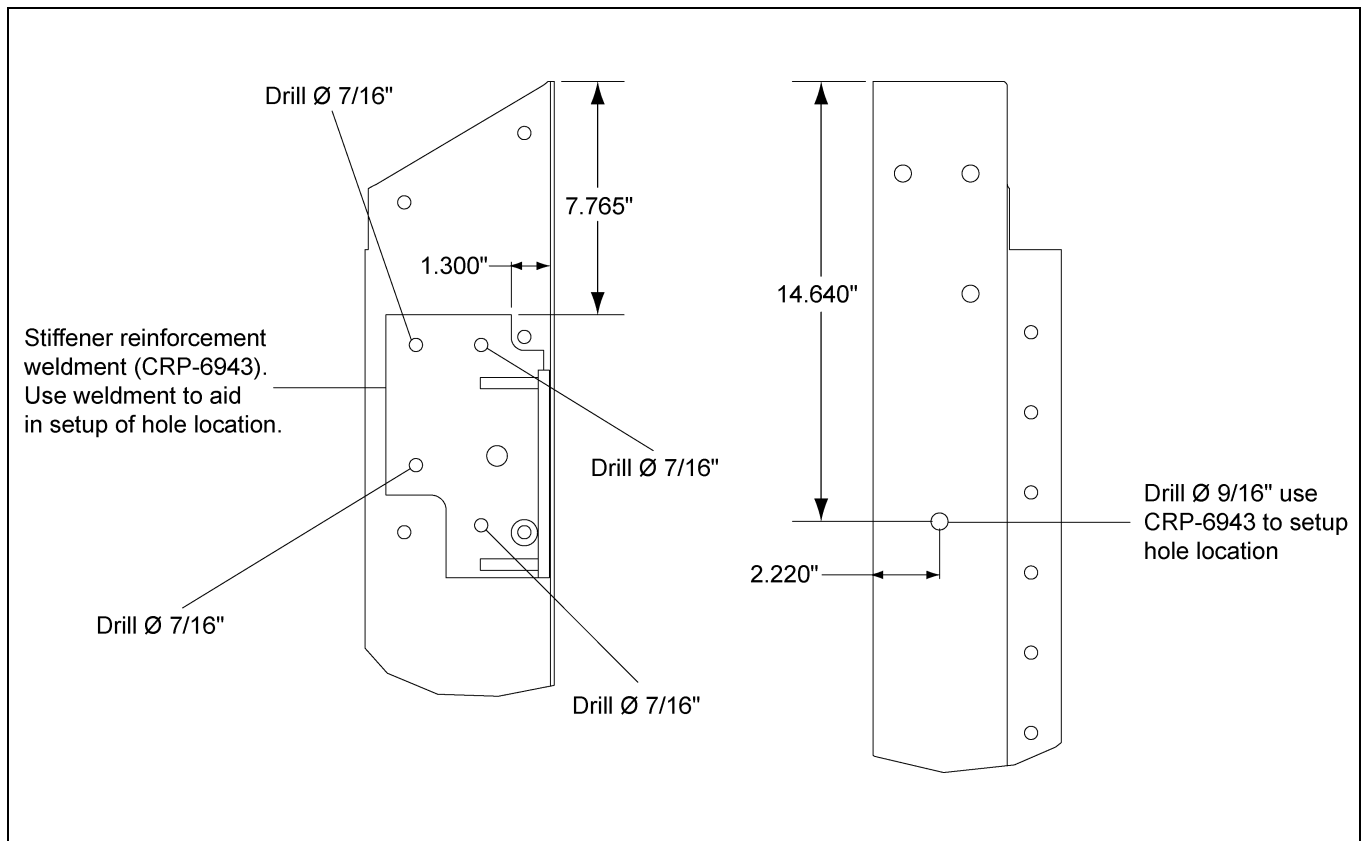

Figure 4A
1. Use CRP-6943 as a template to locate and drill four (4) 7/16" holes and one 9/16" hole in every roof beam stiffener as shown in Figure 4A. Drill one 11/16" hole in only one roof beam stiffener at the termination point.